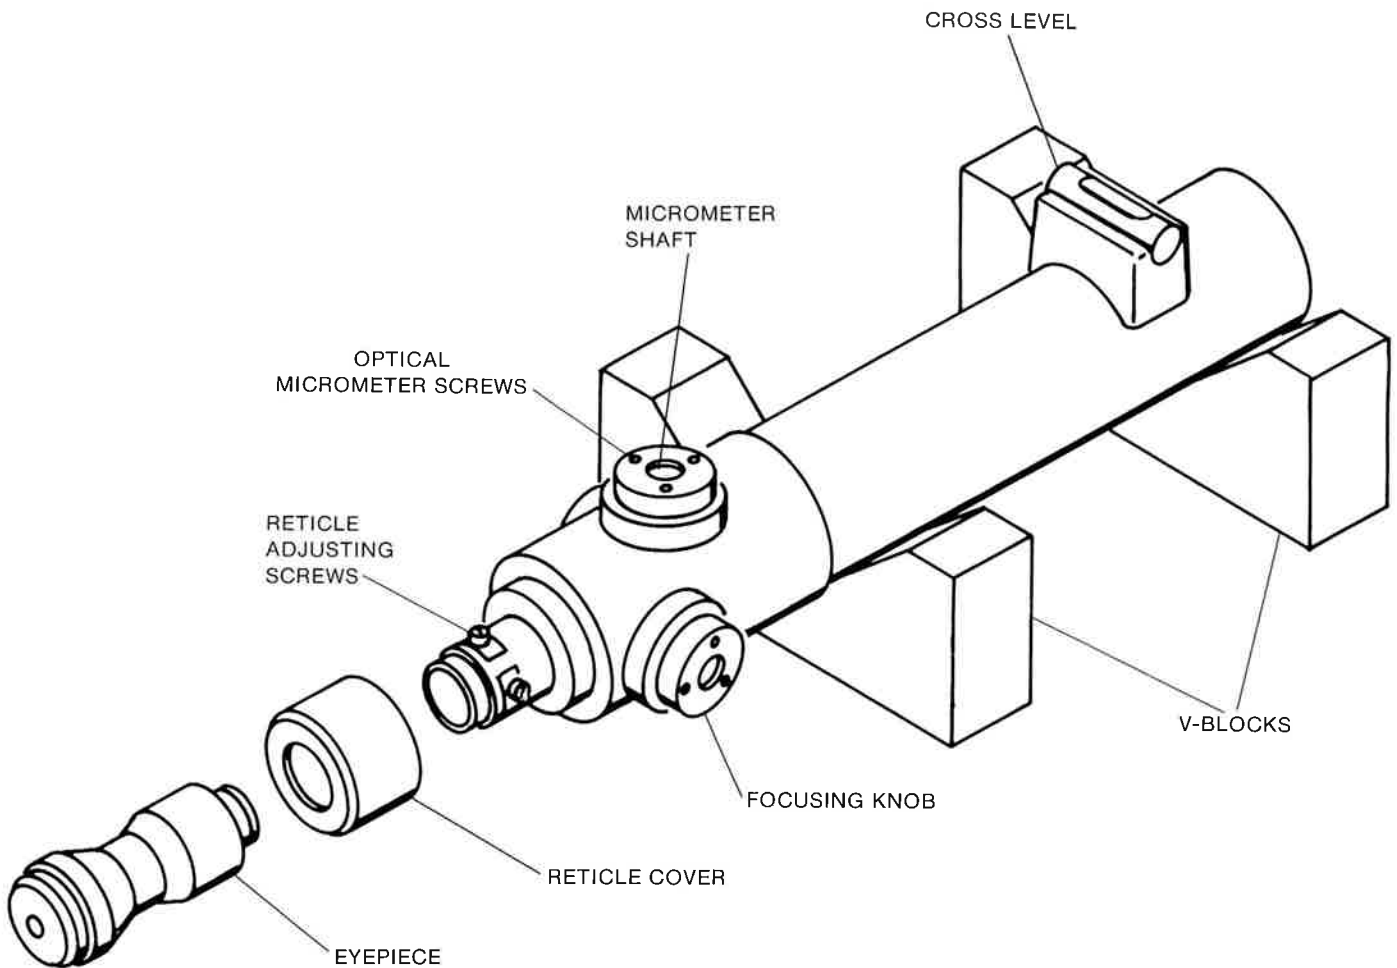

Figure 3-1. Alignment Telescope Prepared for Adjustment
- (1) Adjust one of the micrometer knobs on the telescope to either extreme position.
- (2) Aim the telescope at a well defined target.
- (3) Rotate the same micrometer knob to its other extreme position. The cross line should remain on the target. If not, perform the following adjustments.
b. Adjustment 1b. (See Figure 3-1.)
- (1) Unscrew the eyepiece and reticle cover from the telescope. Reinstall the eyepiece.
- (2) Four reticle adjusting screws are now exposed. Loosen two adjacent adjusting screws. Tap the screws gently to make them slide around the telescope until the cross line remains on the target throughout the full micrometer movement.
- (3) Tighten the reticle adjusting screws that were loosened.
- (4) **Repeat Test 1b.**
b. Unscrew the eyepiece and reticle cover (Figure 3-1). Reinstall the eyepiece.